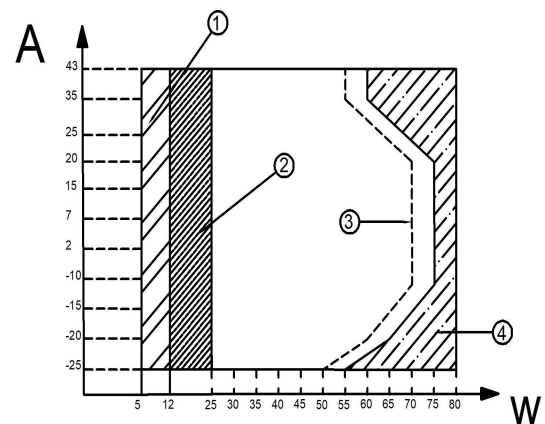

Figure 2-5
- (2) Operating range of the heat pump, possible limitations and protection.
- (3) Maximum water inlet temperature line for heat pump operation.
- (4) The heat pump is off and only IBH / AHS is on. (IBH can heat water temperature to 75 °C and AHS can heat water temperature to 80 °C)
Flow temperature (W) at different outdoor temperatures (A) Figure 2-5 below: